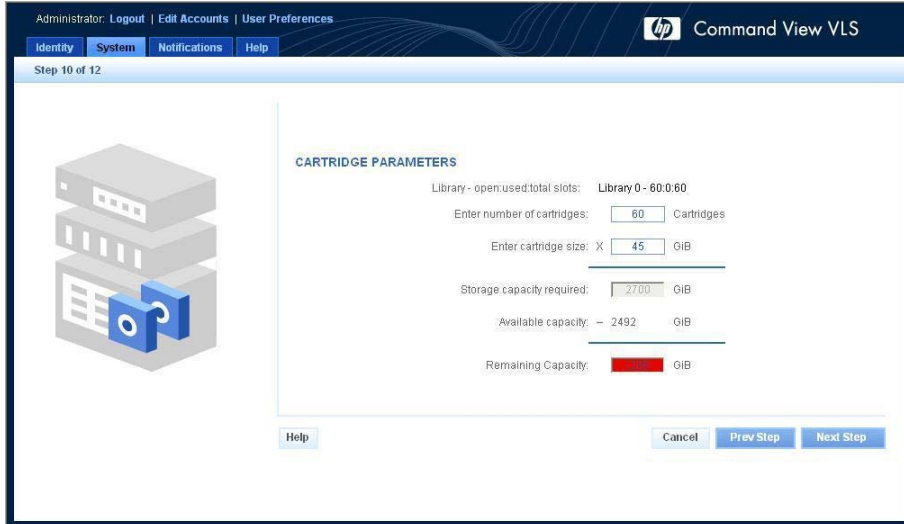

Figure 37 Create Virtual Library Wizard window (10 of 12)
8. Enter the number of cartridges and the cartridge size in the appropriate boxes (Figure 37).